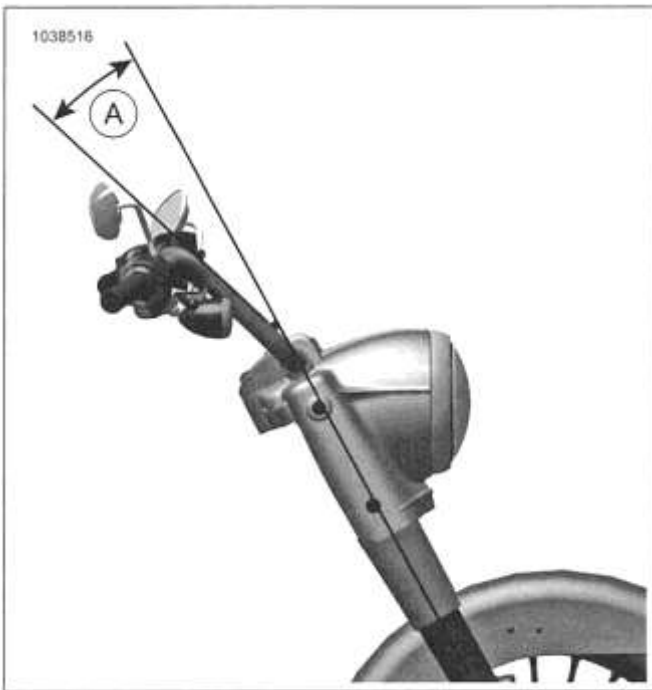

Figure 3-147. Handlebar Angle: FLHRXS
1. See Figure 3-147. Check handlebar angle to verify that the height above the seat is 15 in (38.1 cm) or less.
- b. Check that angle (A) is 17 degrees or greater. Adjust as necessary.